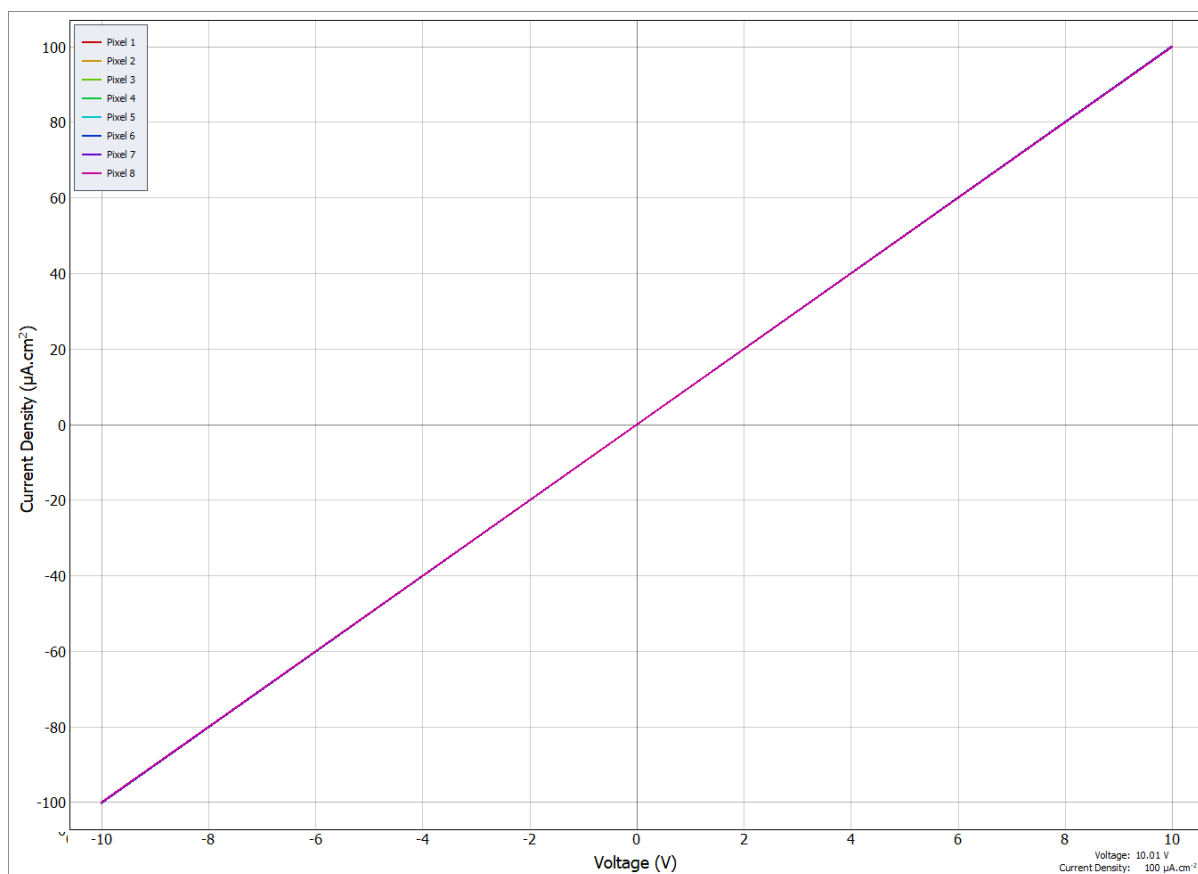

Figure 10.3. Example measurement of resistor test device using the 200 μA current range.
6. The system should measure straight line resistor responses from $-100 \mu\text{A.cm}^{-2}$ to $100 \mu\text{A.cm}^{-2}$ (or $-20 \mu\text{A.cm}^{-2}$ to $20 \mu\text{A.cm}^{-2}$ for the $20 \mu\text{A}$ current range) as shown in **Figure 10.3**.